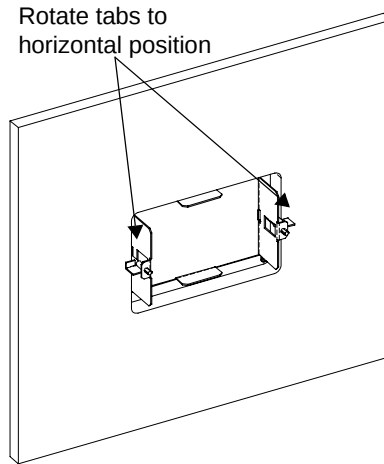

Figure 2-8 Securing the Mounting Plate
4. Secure the mounting plate by tightening the two screws to rotate the tabs to the horizontal position (see Figure 2-8) and pull the tabs tight against the inner surface of the wall. Be careful not to overtighten the screws and damage the wall.